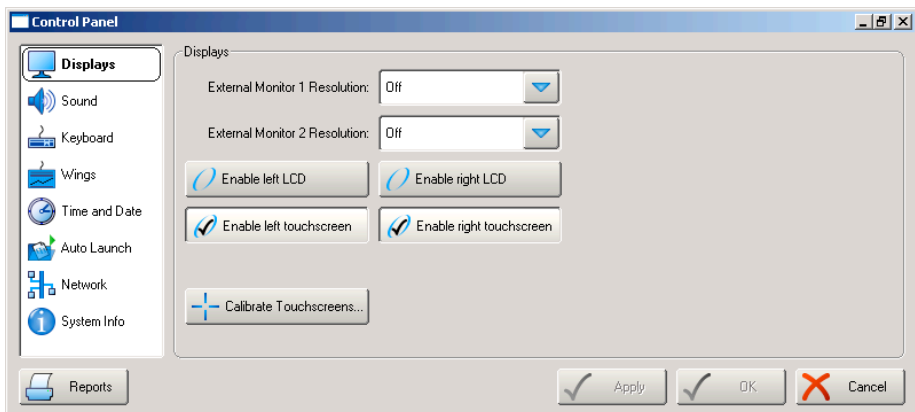

Figure 6.5. The Displays Pane of the Control Panel
2. Select a resolution for the displays from the drop-down menu; see Figure 6.5, "The Displays Pane of the Control Panel".